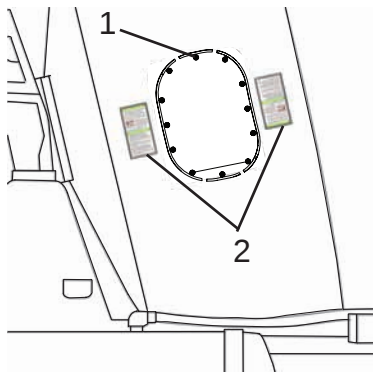

Figure 5
6. Position the drum hatch (Figure 5, Item 1) so the hatch is on the driver's side to perform service and maintenance.
7. Make sure that the mixer drum warning decals (Figure 5, Item 2) are clean, readable, and properly positioned. Replace any damaged or unreadable decals immediately.